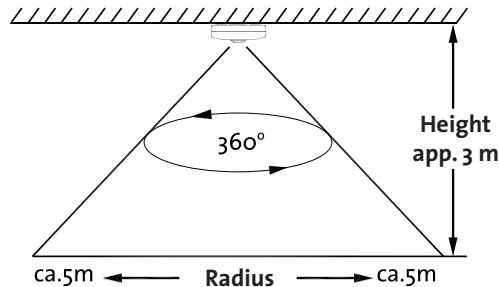

Fig. 1
2. The ideal is to install the detector 3 metres above the floor to be monitored (please refer to Fig. 1)